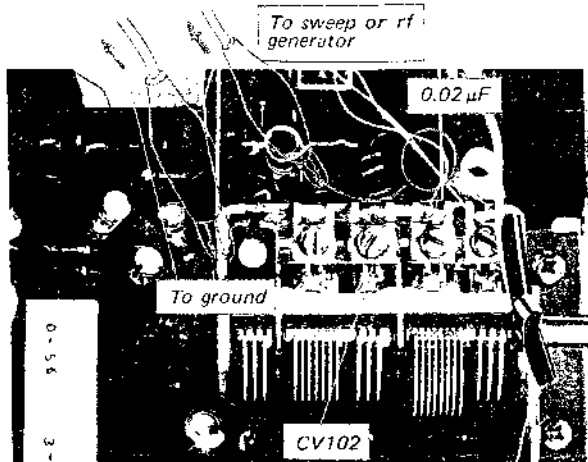

Fig. 3-4. 10.7 MHz signal injection
2. Connect the output cable of the generator across CV102 on the fm (a-m) front end/i-f amp/MPX board. Use alligator clips and make the connection through a 0.02 μF coupling capacitor as shown in Fig. 3-4.